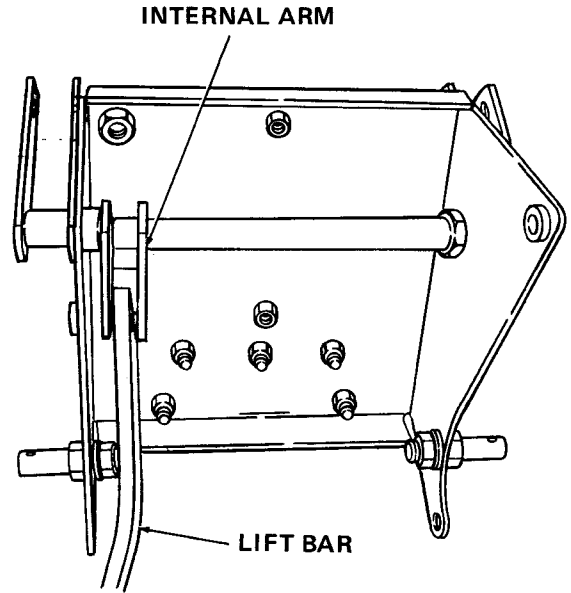

Figure A-8
- c. Place slotted end of lift bar (2) inside internal arm of 3-point hitch plate assembly. Countersunk hole at front end of lift bar should face towards front of tractor and towards right side of the frame. Refer to Figure A-8.